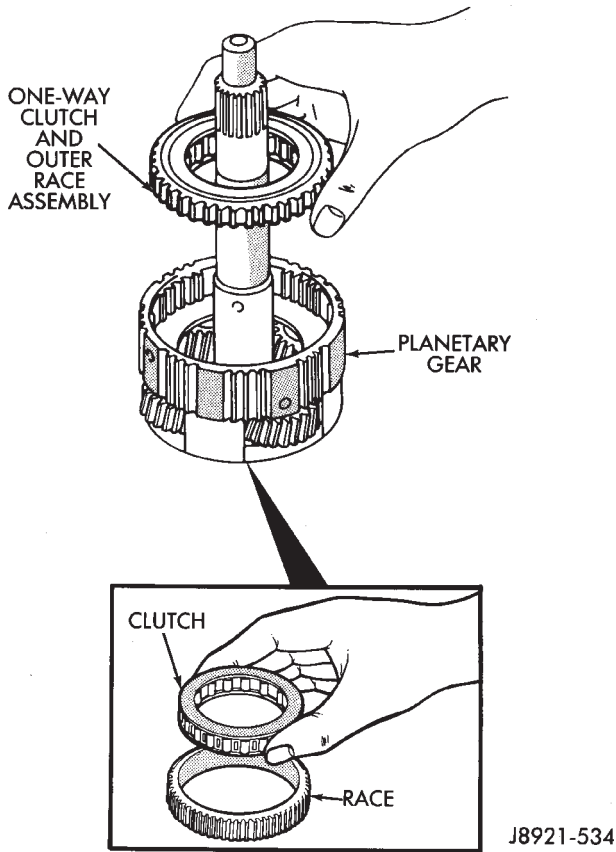

Fig. 14 Removing One-Way Clutch
(16) Remove one-way clutch and outer race as assembly. Then separate race from clutch (Fig. 14).